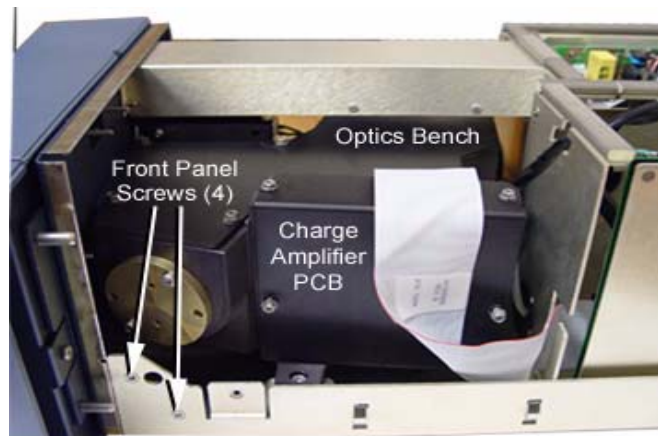

Figure 3 - Location of Front Panel Screws
7. Remove the four T20 Torx screws (two on each side) that secure the front panel/bezel assembly to the chassis (Figure 3).